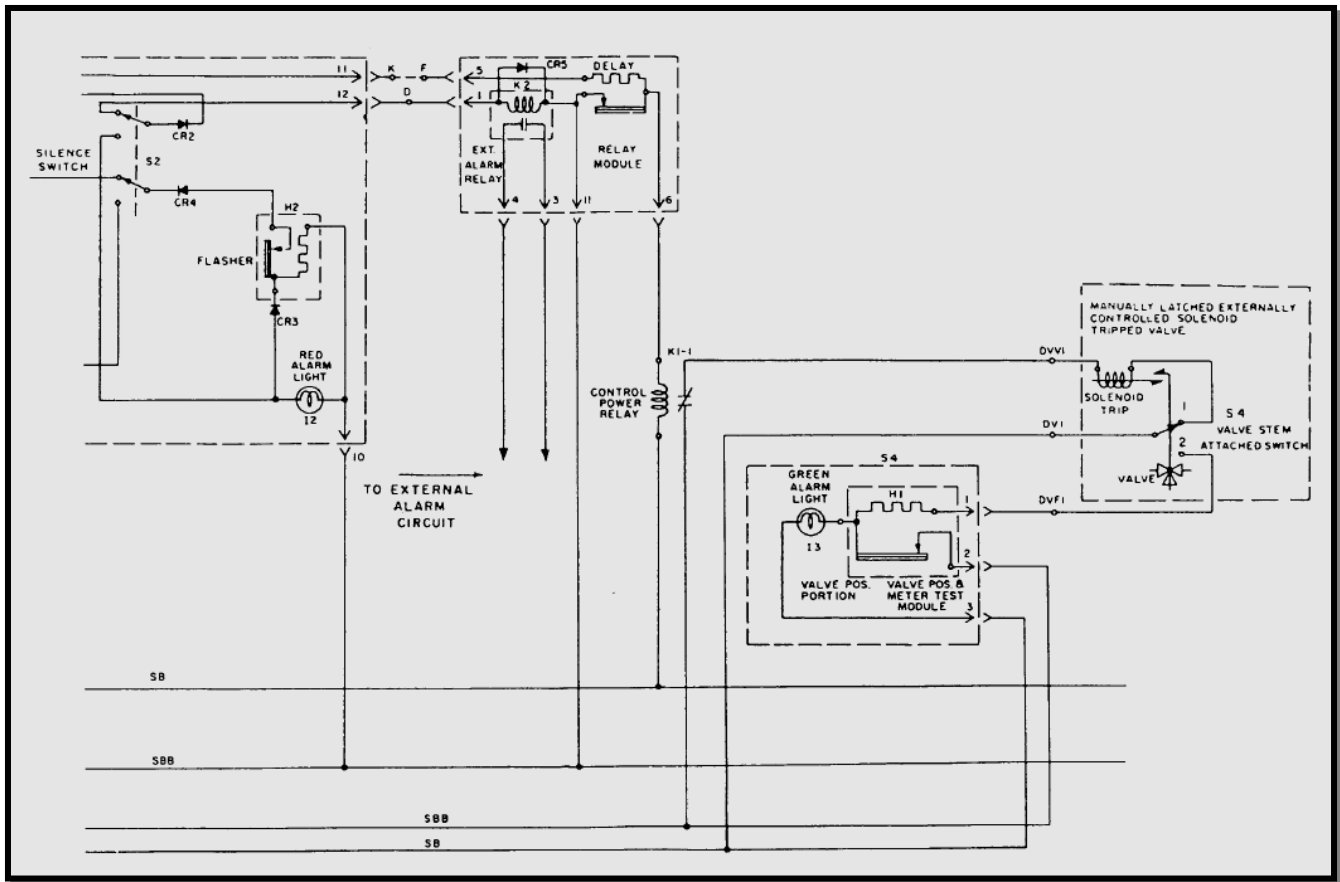

Figure 10-75(Cont'd).— Schematic diagram of the salinity indicator system.
**METER UNIT.**— The meter unit (fig. 10-75) measures the specific electrical conductivity of the water. The conductivity values are then converted by meter scale calibration into equivalent concentrations of seawater. The meter is connected to the cell circuits by individual switches on each salinity cell. The specific electrical conductivity is measured by means of a bridge circuit that employs a special power-factor type of meter. The meter measures the ratio of currents in the two separate arms of the bridge. One arm of the bridge is the dilute solution of seawater to be measured. The other arm of the bridge is an automatic temperature compensating resistor that has the same resistance-temperature characteristics as dilute solutions of seawater.